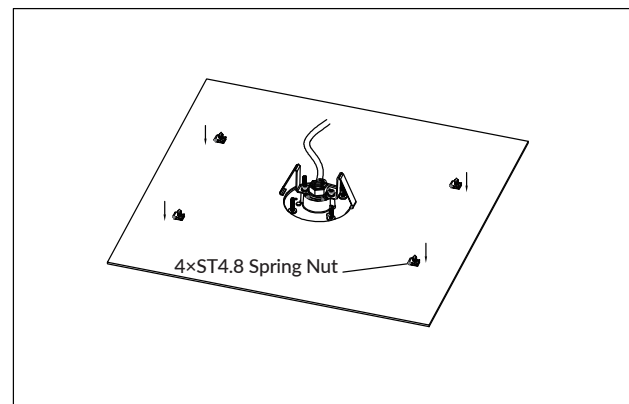

Figure 4
- Apply the ST4.8 Spring Nuts to the Self-tapping Screws from back of the Luminaire Part to secure the assembly. Then, seal the screws and nuts with glue to waterproof the deck. (Figure 4).